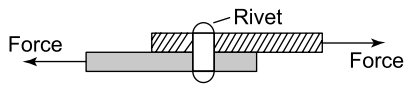

Figure 3.3
- (i) a rivet holding two plates together is in shear if a tensile force is applied between the plates – as shown in Figure 3.3